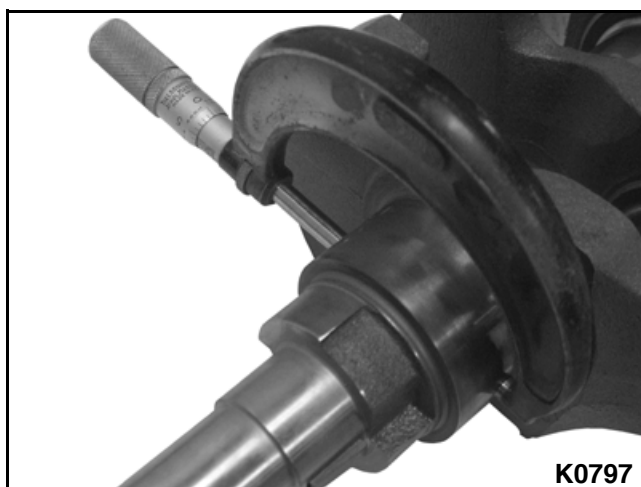

Figure 3-226: Measure Main Bearing Journal
5. Using a micrometer, measure the diameter of each main journal and crank pin. **See Figures 3-226, 3-227, and 3-228.**